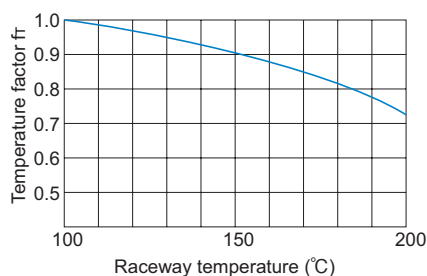

Fig.2 Temperature Factor (f_T)
- f_T : Temperature factor (see Fig.2 on A-11)
If the temperature of the environment surrounding the operating LM System exceeds 100 °C, take into account the adverse effect of the high temperature and multiply the basic load ratings by the temperature factor indicated in Fig.2.